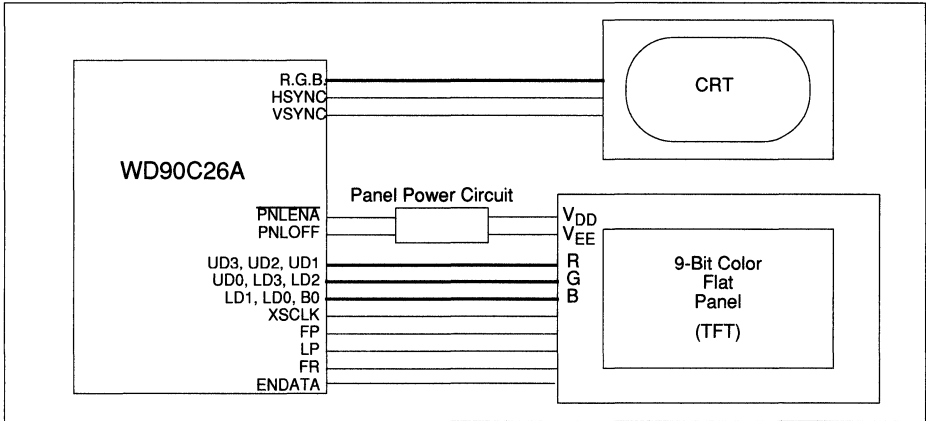

FIGURE 6-23 9-BIT COLOR LCD PANEL INTERFACE
- 9-Bit Color LCD Panel Interface (Figure 6-23)
When using a color panel with a 12-bit interface the LA22 through 21 address inputs become re-defined as the least significant red, green, and blue bits of the 12-bit interface. This makes it necessary for the system to provide the WD90C26A with decodes of the memory addresses in the "below-1 Mbyte" range. Figures 6-23 and 6-24 show two ways in which this can be done: by using the BLW1M input signal as an indication of address range, or by using the **SMEMR** and **SMEMW** memory strobes from the system buses.